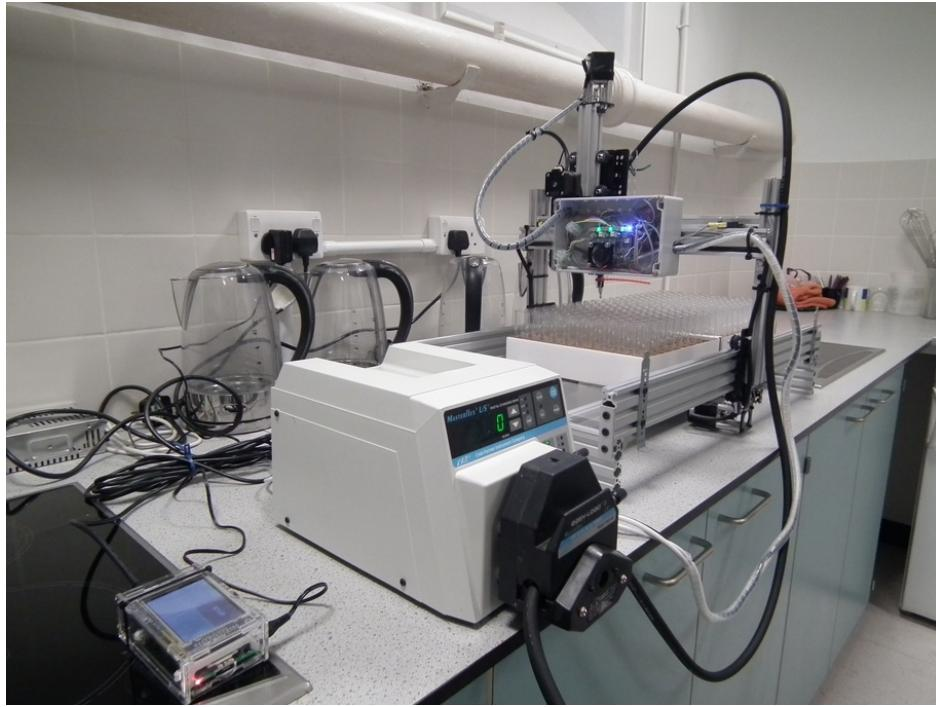

Figure 4.3: Norprene tubing passing through peristaltic pump.
3. Feed the tubing through the peristaltic pump (figure 4.3) and into your vat of fly food (figure 4.4).